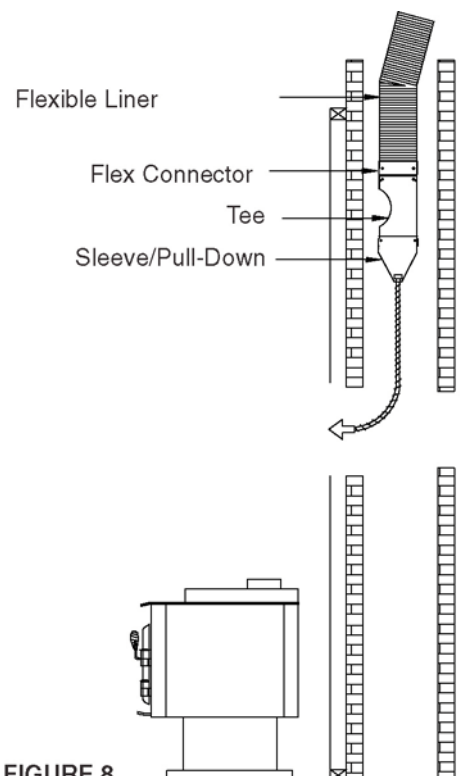
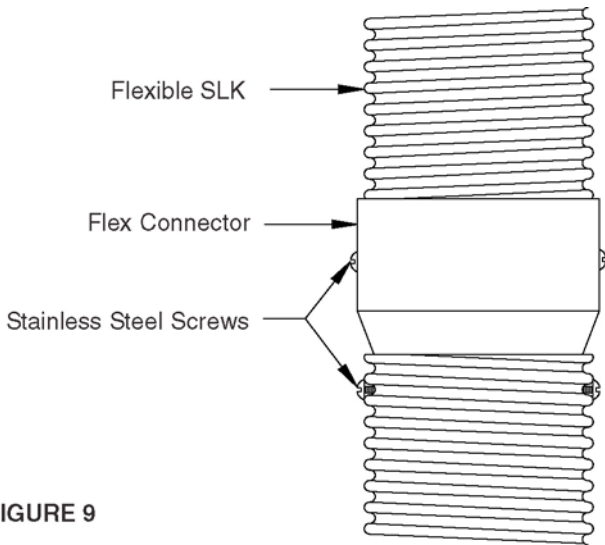

FIGURE 8
FIGURE 9
Liner Preparation: If installation permits, the Flex Connector and the Tee body may be installed on the Flex prior to feeding liner into the chimney, as per Figure 8.
Trimming the Liner: Select the length(s) necessary to accommodate the required distance determined above. If any Flexible Liner requires cutting, use a hacksaw, snips or a disc cutter. If necessary, multiple lengths may be joined using the Flex Connector (see Figure 9), up to a limit of 60' in height.
You can also assemble the Sleeve/Pull-Down directly below the Tee (Tee Cap must be removed) once the Flex Connector is secured to the Tee. Secure with three (3) stainless steel screws equally spaced at 120° (see Figure 8).
If the Flexible Liner is to be insulated, do so now. See the previous section titled **Installation of SLK Insulation Wrap**. Gather all necessary component parts, and locate them near the termination of the chimney. This should consist of the Flashing, Flashing Adapter, Round Top, and the prepared length of Flexible Liner complete with Flex Connector, Tee (with branch removed), the Installation Sleeve/Pull-Down, and rope. Feed the Installation Sleeve/Pull-Down rope down the chimney flue (see Figure 8). While an assistant gently pulls on the rope from below, start lowering the Flexible Liner down into the chimney flue. The assistant may guide the Tee body through the hose clamp attached to the Tee branch. If additional lengths of Flex are required, join the sections together with a Flex Connector (see Figure 9).